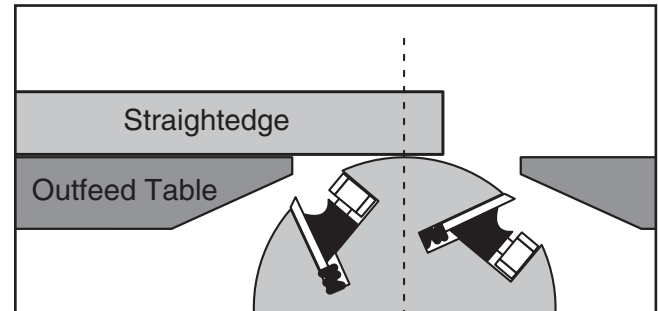

Figure 52. Adjusting outfeed table even with cutterhead body (knife-style cutterhead shown).
1. Place straightedge on outfeed table so it hangs over cutterhead, and lower outfeed table until straightedge just touches cutterhead *body*, as shown in **Figure 52**.